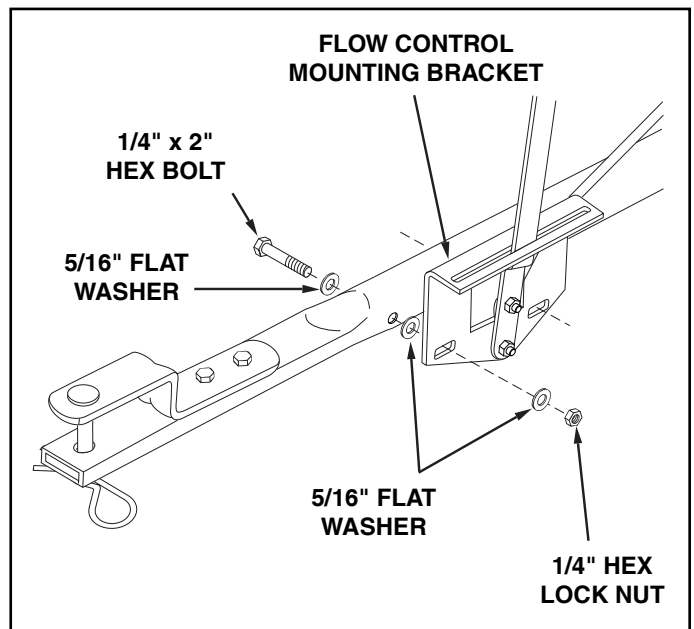

FIGURE 11
20. Assemble the flow control mounting bracket to the hitch tube using two 1/4" x 2" hex bolts, six 5/16" flat washers and two 1/4" hex lock nuts as shown in figure 11. **Do not tighten at this time.**